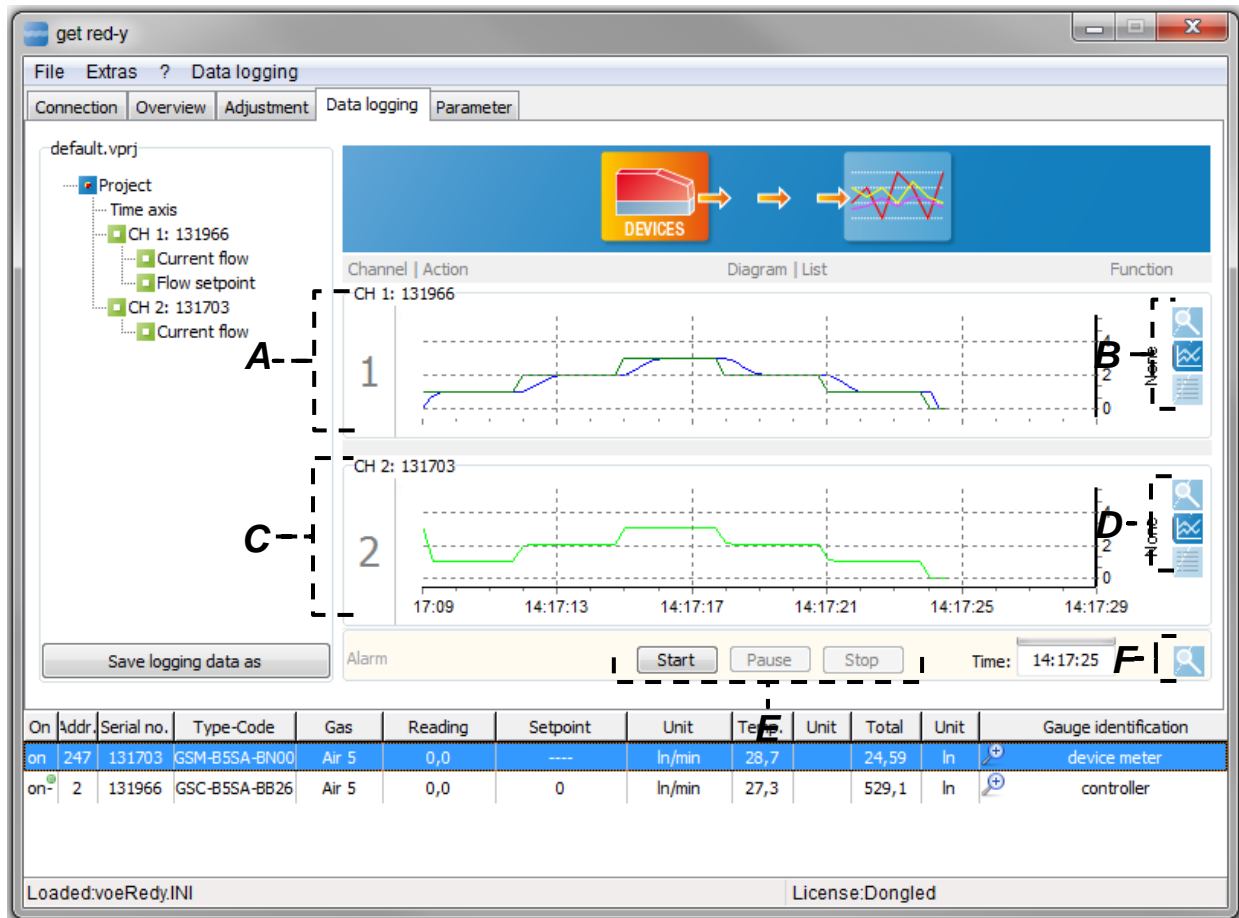

Figure 42: Representation of the registered signals (actual value flow, set point flow) of both channels (devices).
- A. Channel 1:** Here the sequence of the Scriptwalker is graphically represented. In Figure 42 you see the sequence of the script. You see the set points (green) which are chronologically controlled by the script and the actual value (blue). Right mouse clicking within the diagram allows you to copy the measurement data to the clipboard. The data from the clipboard can be copied to Excel with [CTRL+C].
-  The data is displayed as a graph (See Figure 42).